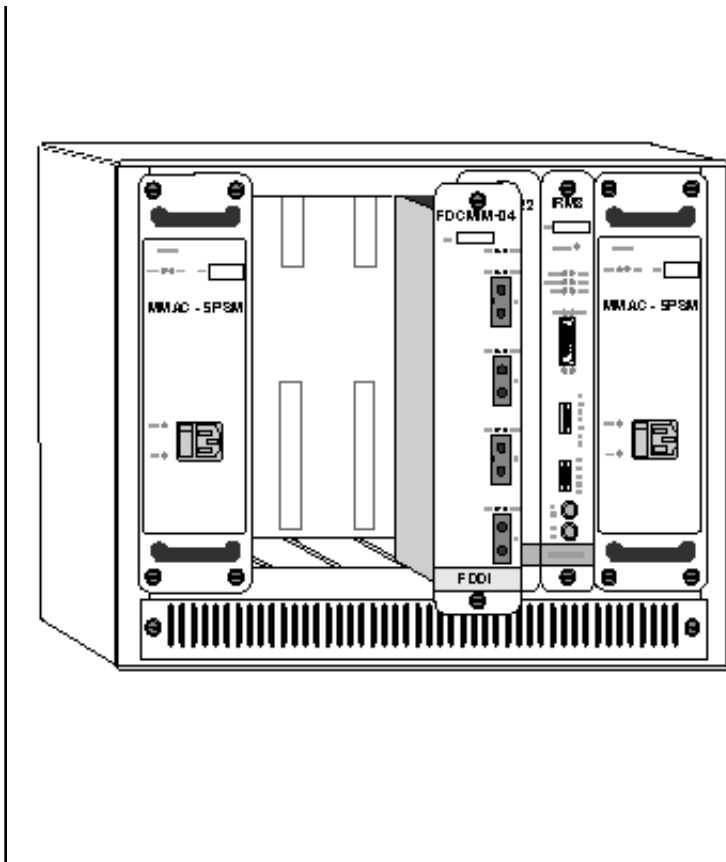

Figure 3-1. Installing a Module in the MMAC
1. Slide the TPMIM (2, Fig. 3-1) into the MMAC's (1) card cage. Be sure that the card is in the top and bottom slots (4) of the case.